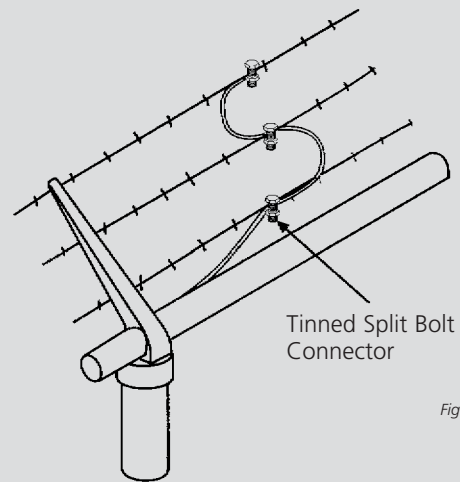

Figure 78.
4. If barbed wire strands are used above the fence fabric, the barbed wire strands shall be bonded to the grounding conductor, jumper or fence. (See Figure 78.)